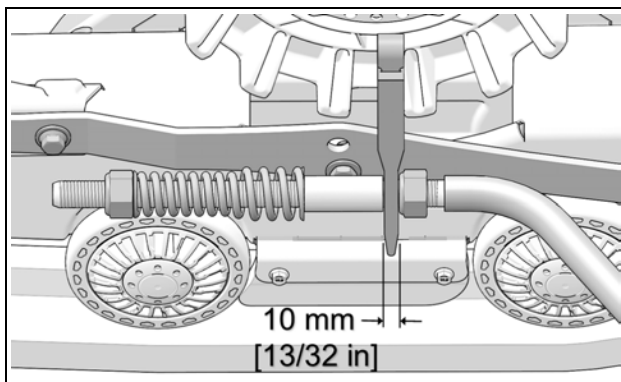

Figure 13
- **IMPORTANT:** Double-check the 10 mm minimum distance between nut and stabilizing arm guide. Re-adjust as needed. Figure 13.